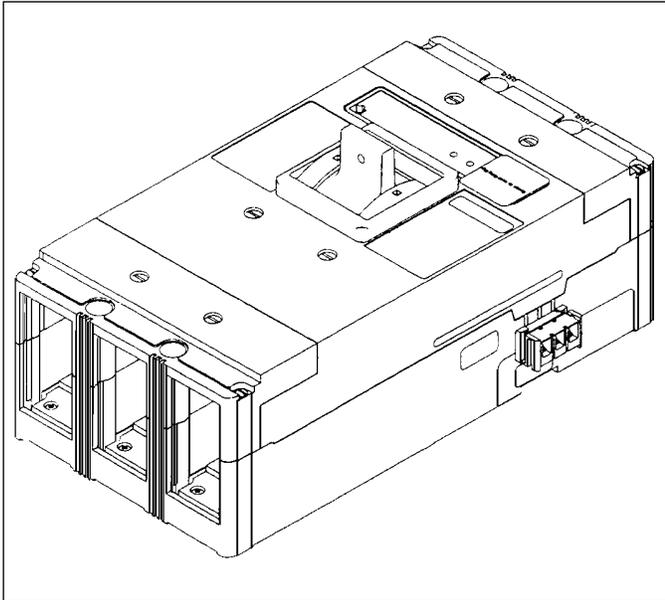

Figure 2-6 Preferred Mounting Locations for Accessory Nameplate Labels
- 2-11. Place accessory labels (supplied with kit) on circuit breaker (see Figure 2-6).